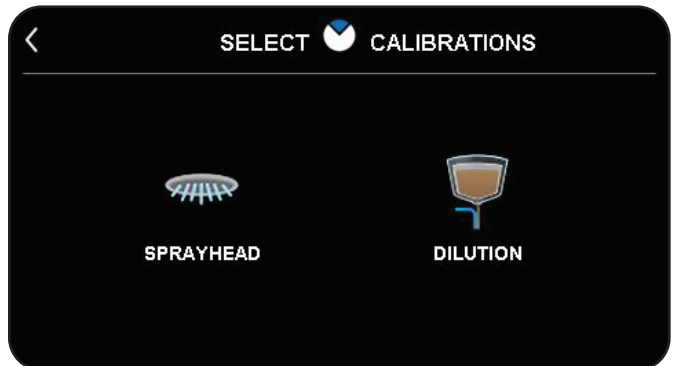

FIG. 38-3 ITB
2. Infusion Series Tea Brewers. (Fig. 38-3)